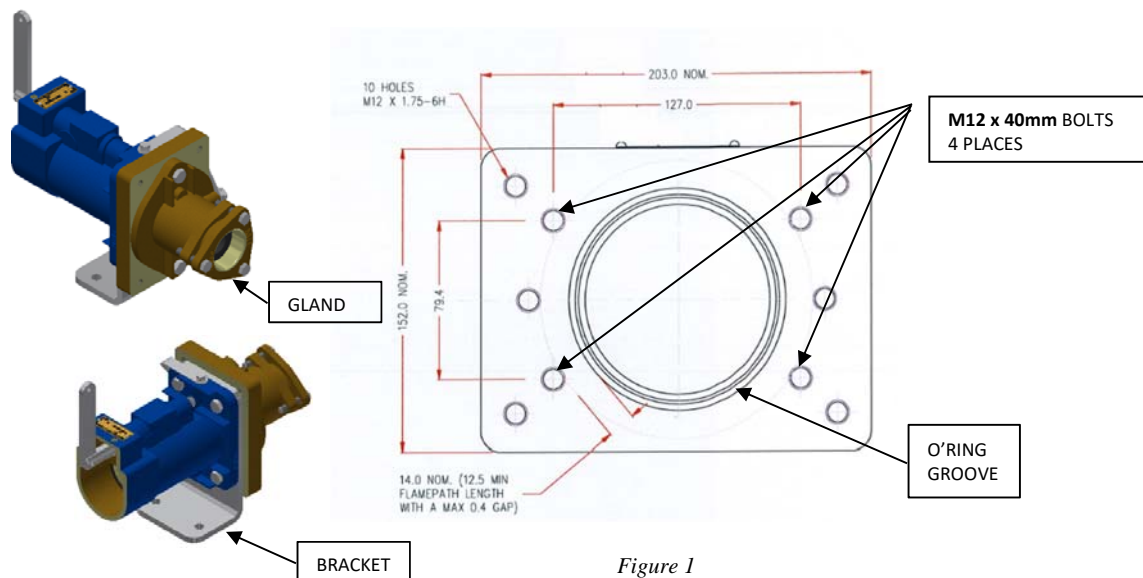

Figure 1
3. Place O'ring in allocated groove on Spigot Gland Adaptor (Figure 1)